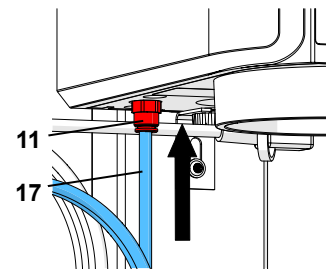

Fig. 5-a
**!** In previous devices, the inlet filter (12) was situated outside the device (Fig. 5-b). In these cases, push the compressed air horse (17) onto the inlet filter (12). There will be a slight resistance to overcome when attaching.